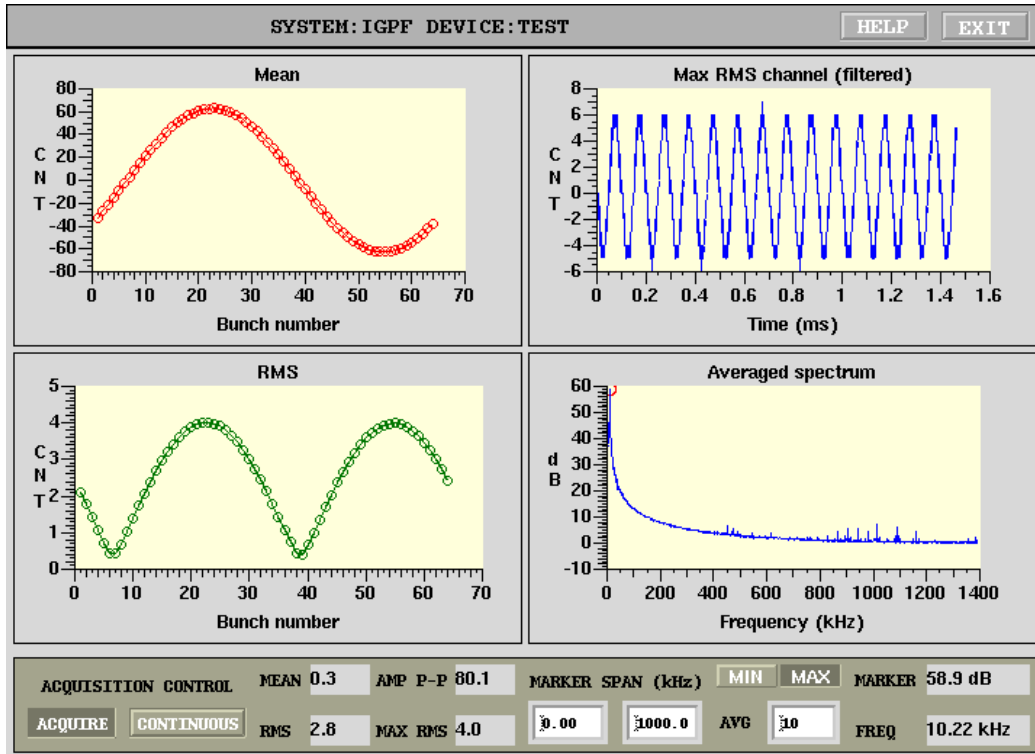

Figure 12: Waveforms panel
**Acquire** Acquisition trigger pushbutton for internal trigger. This control is no longer actively used - see the waveform panel (Fig. 12).
A set of **IOC** subroutines postprocesses the data in the real-time and provides four concise plots displayed in the waveform panel shown in Figure 12. The four plots are: bunch-by-bunch mean and root mean square (**RMS**) of bunch oscillations, time-domain signal of a bunch with the largest **RMS**. The last plot is obtained by performing the fast Fourier transform (**FFT**) on each of the bunches and quadratically averaging the resulting spectra. This plot aliases all coupled-bunch eigenmodes to a frequency span from DC to  $\omega_{\text{rev}}/2$ . Such a spectrum allows the operator to very quickly check how well the system damps the coupled-bunch motion.